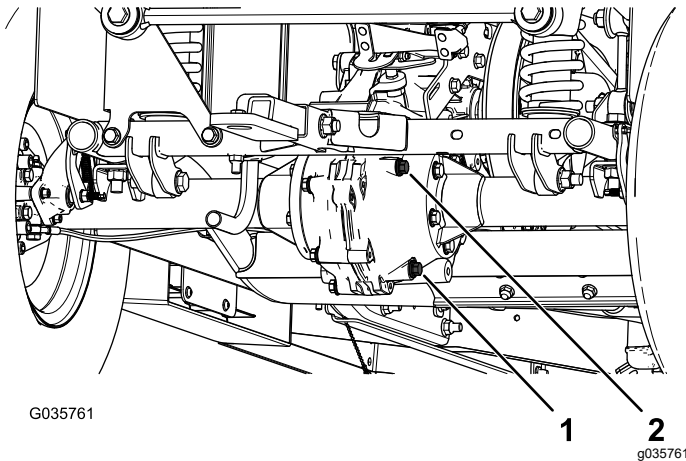

Figure 59
4. Remove the fill plug on the transaxle (Figure 59).
5. If the fluid level is low, remove the fill plug and add the specified fluid until it runs out of the hole (Figure 59).
1. Align a drain pan under the drain plug (Figure 59).
2. Remove the fill plug and the seal (Figure 59).
3. Remove the drain plug and the seal, and allow the fluid to drain completely (Figure 59).